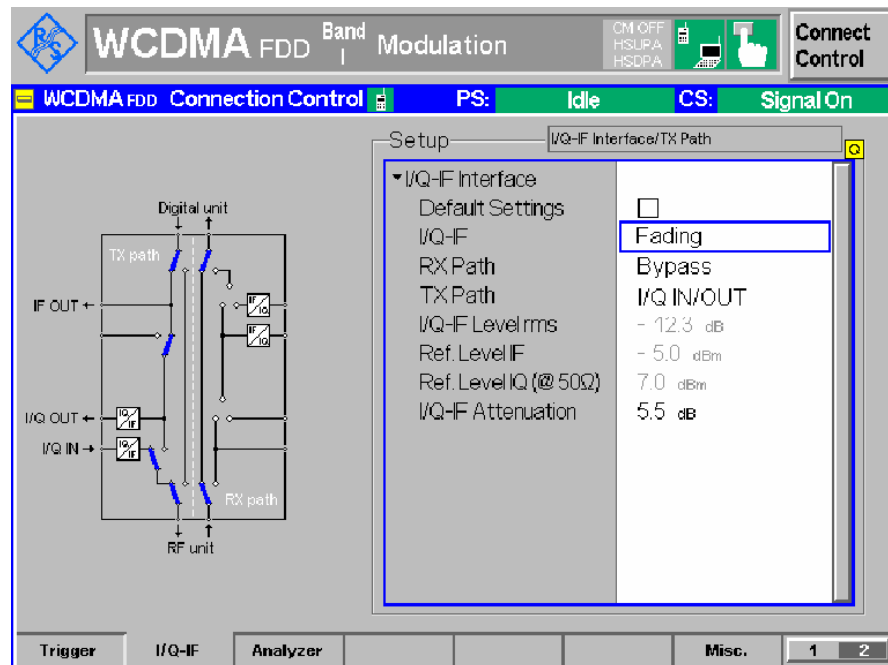

Figure 4.6_1: I/Q path setting on the CMU for fading
- Set I/Q-IF to *Fading* or the TX path to *I/Q IN/OUT*, see Fig. 4.6_1: